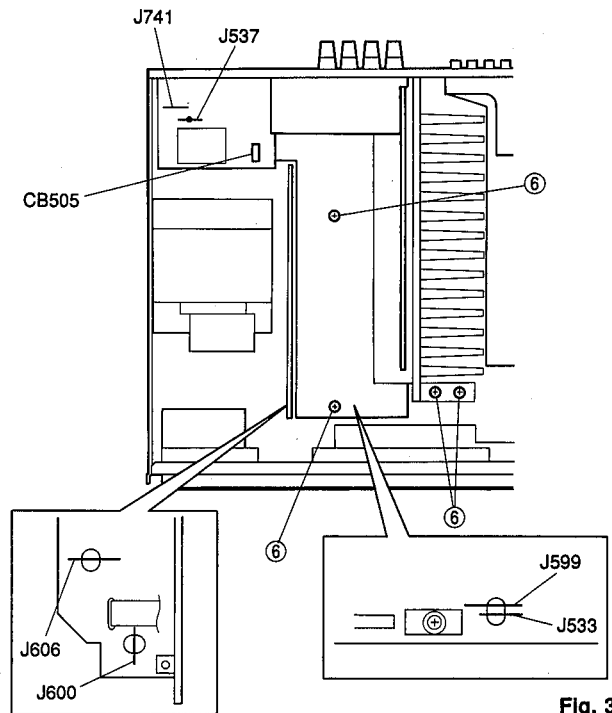

Fig. 3
- c. Remove 4 screws (⑥) fixing the Main Unit in Fig. 3.
- d. Detach 1 connector terminal (CB505) in Fig. 3.
- e. Operating checks can be taken by shorting between following test points in Fig. 3.